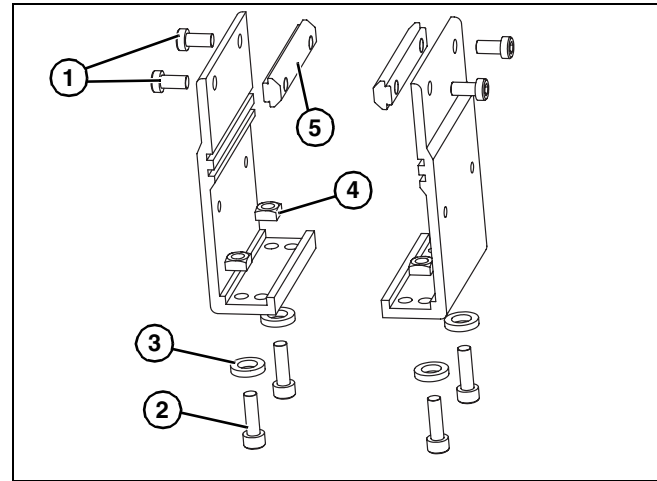
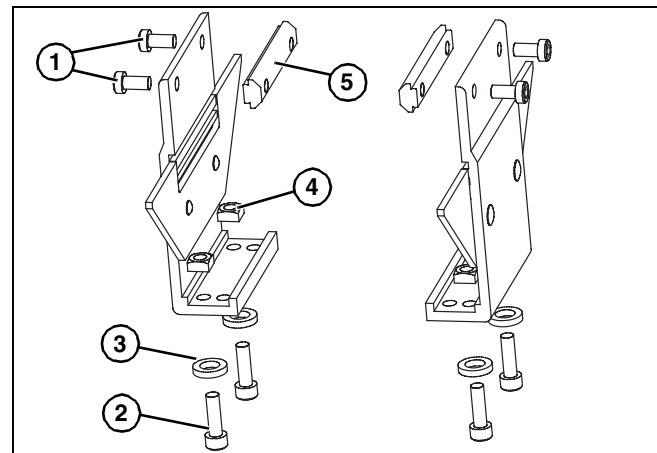
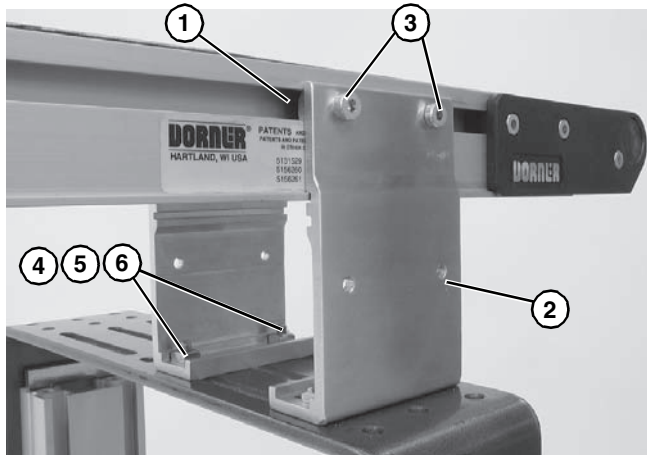

Figure 9
Figure 10
Figure 11
- Locate brackets. Exploded views shown in Figure 9 & Figure 10.
- Remove screws (**Figure 9, item 1 & 2**) & (**Figure 10, item 1 & 2**), washers (**Figure 9, item 3**), nuts (**Figure 9, item 4**) and T-bars (**Figure 9, item 5**) from brackets.
- Insert T-bars (**Figure 9, item 5**) & (**Figure 10, item 5**) into conveyor side slots (**Figure 11, item 1**). Fasten brackets (**Figure 11, item 2**) to conveyor with mounting screws (**Figure 11, item 3**).
- Fasten brackets to support stand with mounting screws (**Figure 11, item 4**), washers (**Figure 11, item 5**) and nuts (**Figure 11, item 6**).
- Tighten screws (**Figure 11, item 3 & 4**) to 60 in-lb (7 Nm).